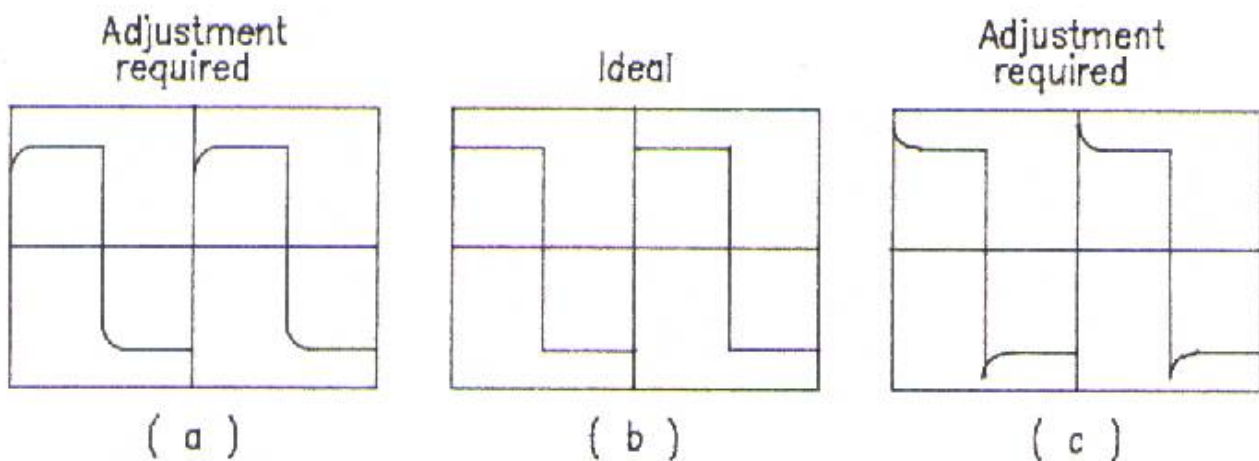

Fig. 10
- Adjust VC1 to make the displayed waveform become as Fig 10(b).
- Adjust VC2 to make the displayed waveform become as Fig. 10(b).